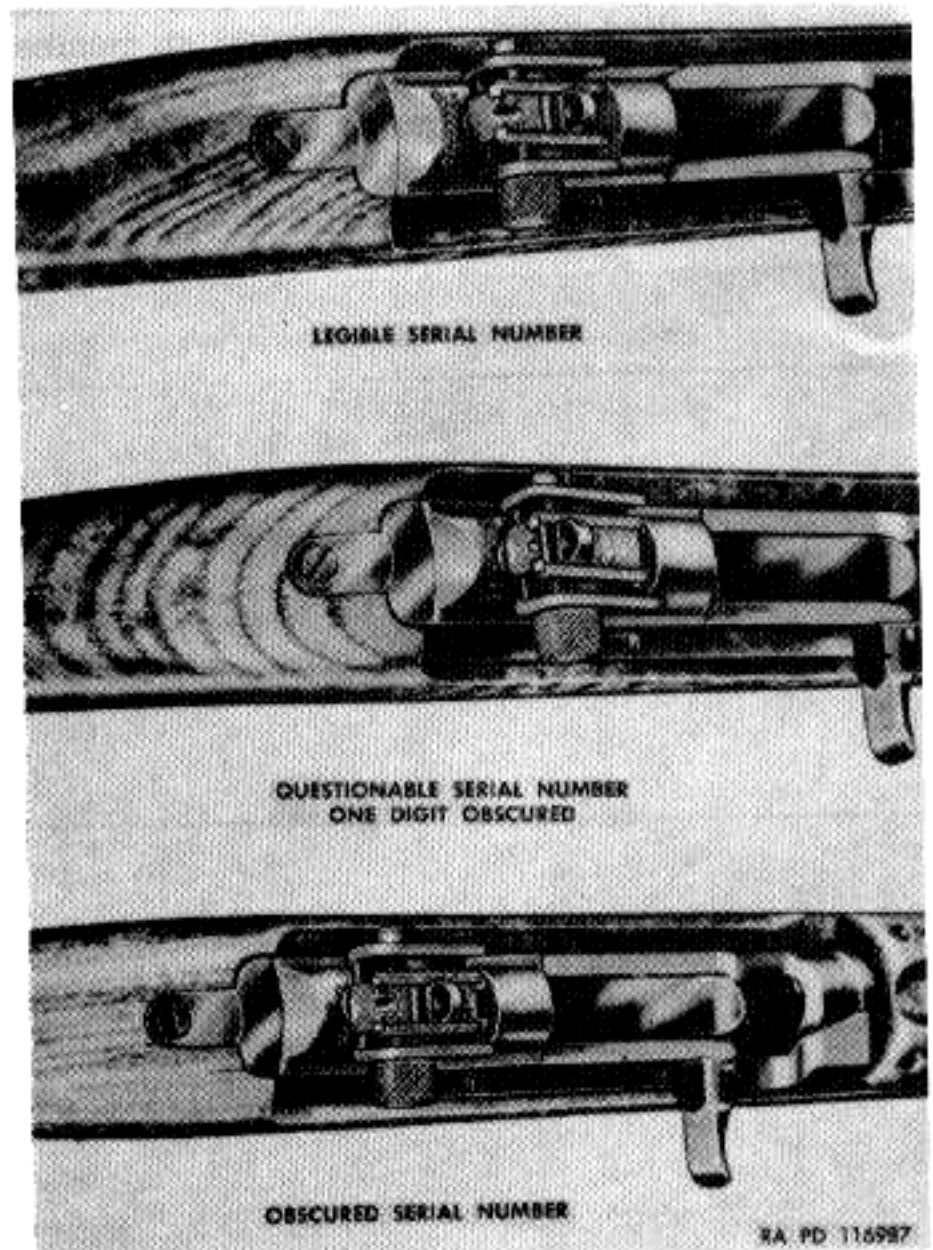
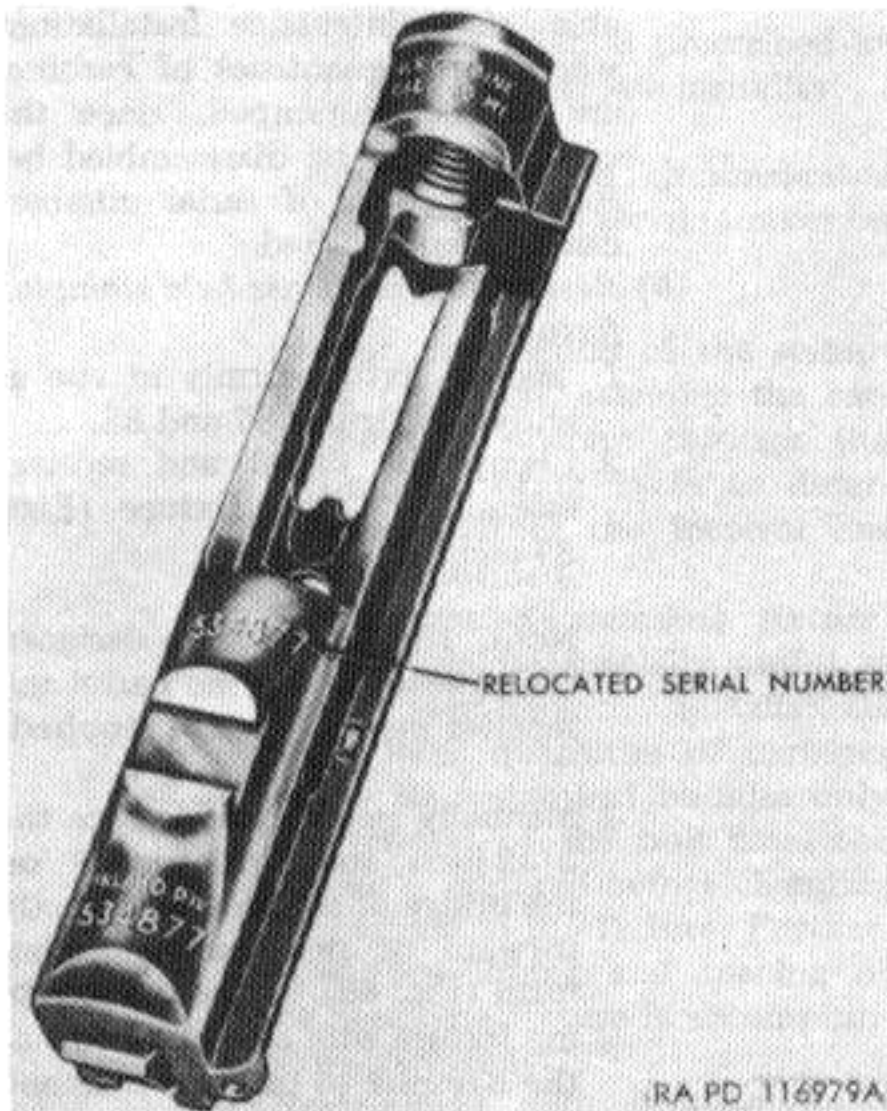

Figure 85. Serial numbers on cal. .30 carbines.
Figure 86. Relocated serial number on cal. .30 carbines.
- (2) Wash chips from reamer and chamber with lard oil after removing from chamber.
- (3) Handle reamer with care to prevent it from being chipped or picked. Never turn reamer backwards in chamber as this tends to dull the cutting edges.
e. *Restoring Serial Numbers (FIELD MAINTENANCE).* Serial numbers which have become obscured because of the installation of the adjustable rear sight must be restored. Since the degree of obscurity varies, this will be effected in one of two ways: (1) if the serial number is questionable (Fig. 85) (one digit obscured), use white graduation filler 52-F-100-230, listed in Department of the Army Supply Catalog ORD 3 SNLK-1, to improve the legibility; and (2) if the serial number is obscured (Fig. 85), it will be relocated on the receiver bridge directly forward of the rear sight platform (Fig. 86).
- (1) *Questionable serial numbers (FIELD MAINTENANCE ONLY).*
3. Manually position and space the 3/32-inch stamping fixture on the bridge of the receiver directly forward of the rear sight platform (Fig. 86). Strike the stamping fixture with one firm blow of the hammer to insure a neat and distinct impression. Repeat this procedure until all digits of serial number are transposed.